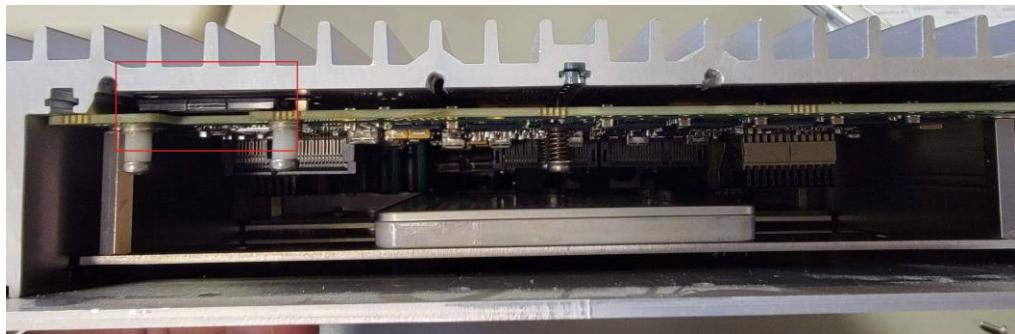

Figure 8-25: CCU / MDS Computer SD Card Slot
2. Depress the SD card and allow it to move back. See Figure 8-25.